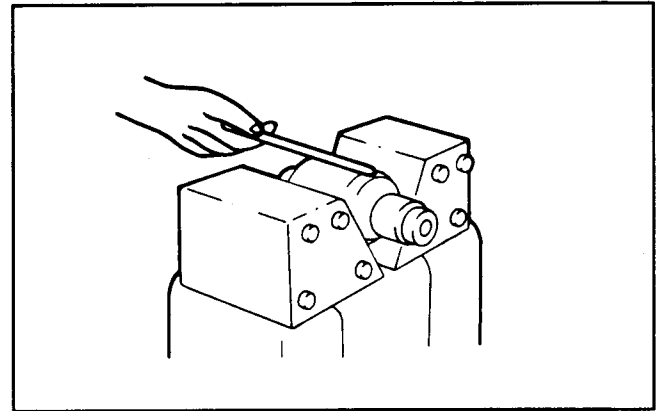

Figure 31
11. Put the armature on a growler tester to check for a shorted armature (Fig. 31). A burned commutator bar is an indication of a shorted armature. With the growler turned on, put a thin strip of steel or a hacksaw blade on the armature as it is slowly rotated. If the metal strip vibrates over a winding, that winding is short circuited. Short circuited windings are sometimes caused by metal in the commutator bridging the gap from one commutator bar to the next. By removing the bridged metal, this condition can be corrected. If this does not correct the short replace the armature.